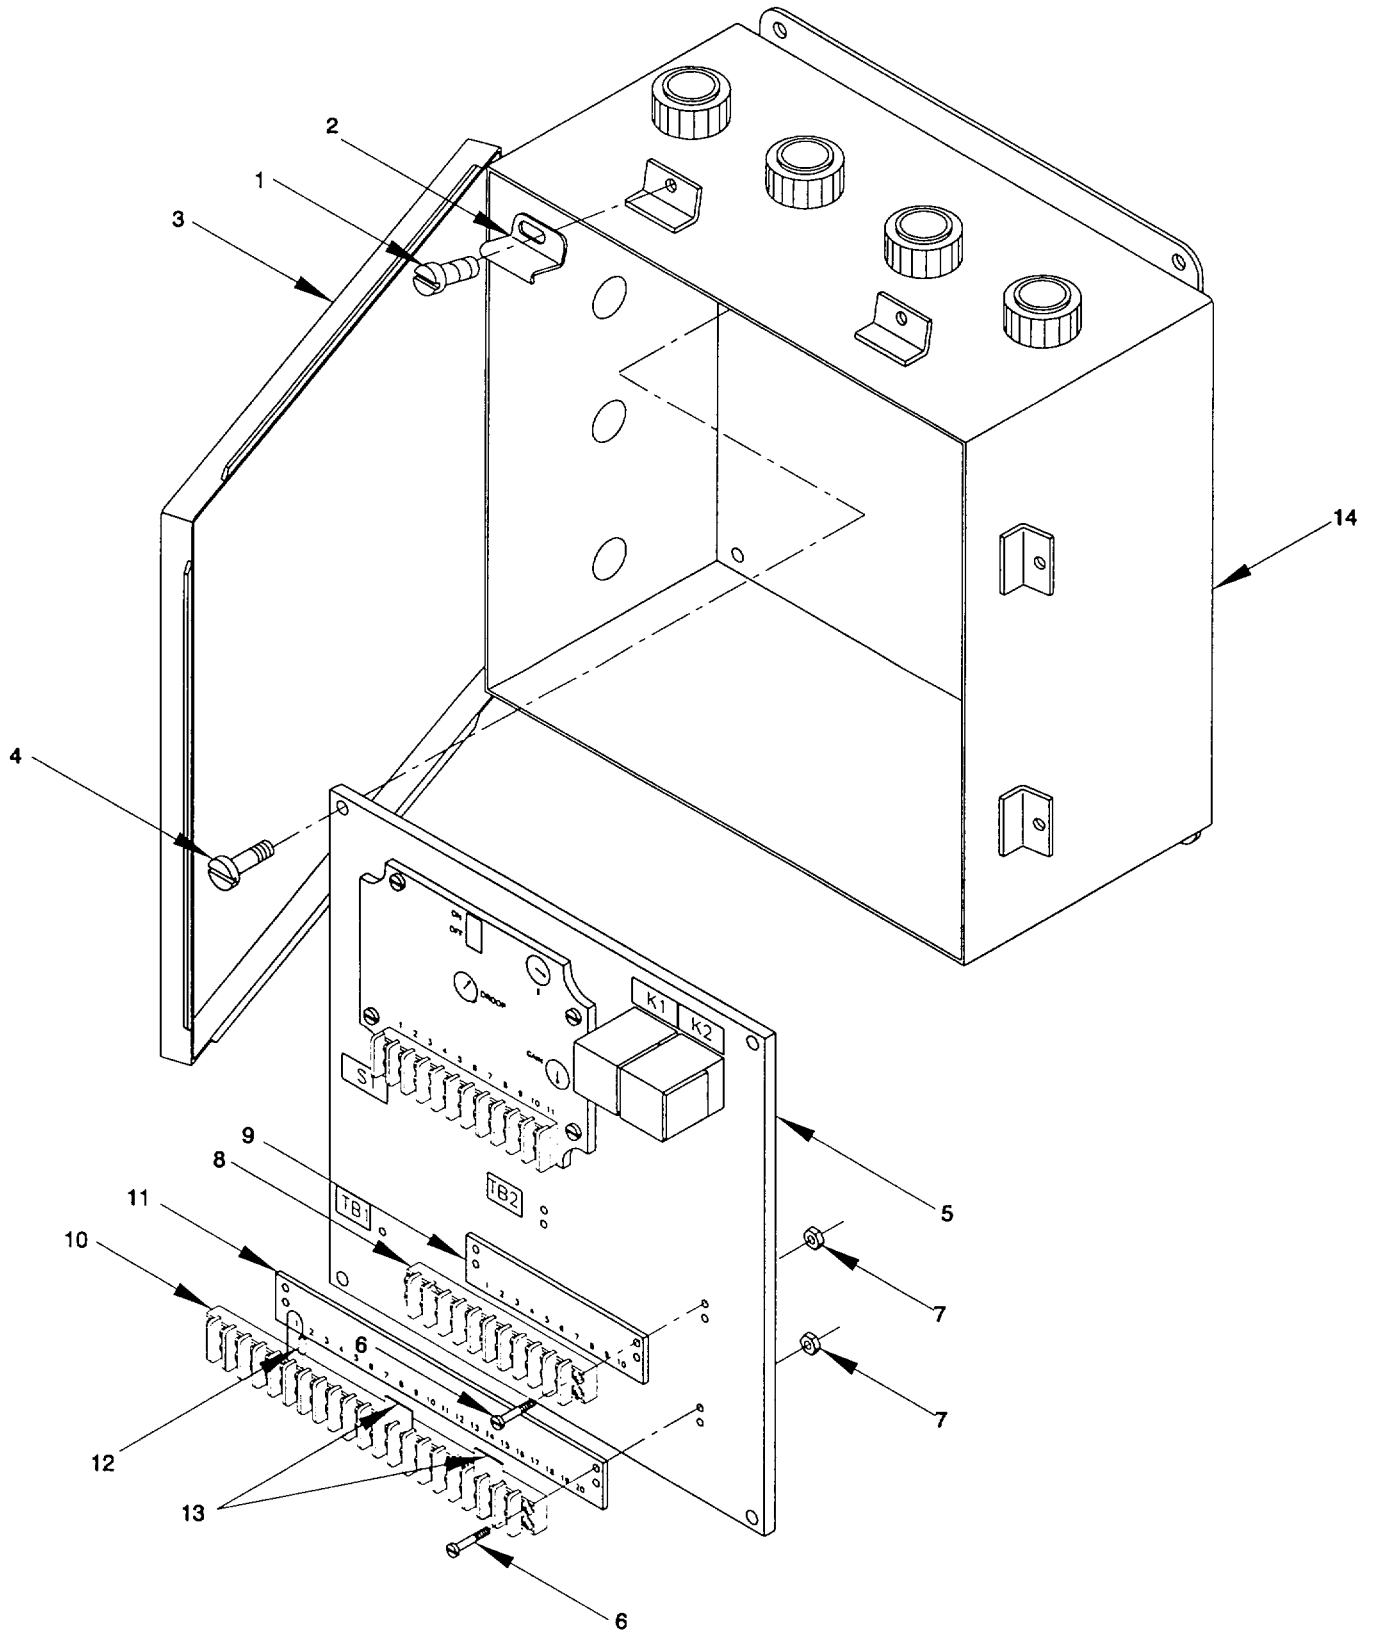

Figure 2-55. Terminal Block, Engine Junction Box "A4", Remove/Install
a. *Remove*, (figure 2-55)
- (1) Remove six screws (1) and six clamps (2) securing cover (3) to enclosure (14). Swing cover (3) open.
- (2) Disconnect and tag electrical wiring to terminal block (8 and/or 10). Refer to Appendix G.
- (3) Remove four screws (4) securing panel (5) to enclosure (14). Lift panel (5) enough to access the rear of the panel (5)
- (4) Remove four pan head screws (6) and four nuts (7) securing terminal block (8 and/or 10) to panel (5). Remove terminal block (8 and/or 10) and marker strip (9 and/or 11).
- (5) Remove resistor (12) and two jumpers (13) from terminal block (10).
b. *Install*, (figure 2-55)
- (1) Apply antiseize compound to screws (1,4 and 6).
- (2) Install resistor (12) and two jumpers (13) on new terminal block (10).
- (3) Install marker strips (9 and/or 11) and new terminal blocks (8 and/or 10) on panel. Secure terminal blocks (8 and/or 10) with four pan head screws (6) and four nuts (7).
- (4) Install panel (5) in enclosure (14). Secure panel (5) with four screws (4).
- (5) Reconnect electrical wiring, as tagged, to terminal blocks (8 and/or 10). Refer to Appendix G. Use tie wraps to secure any loose wires.
- (6) Close cover (3) and secure with six clamps (2) and six screws (1).